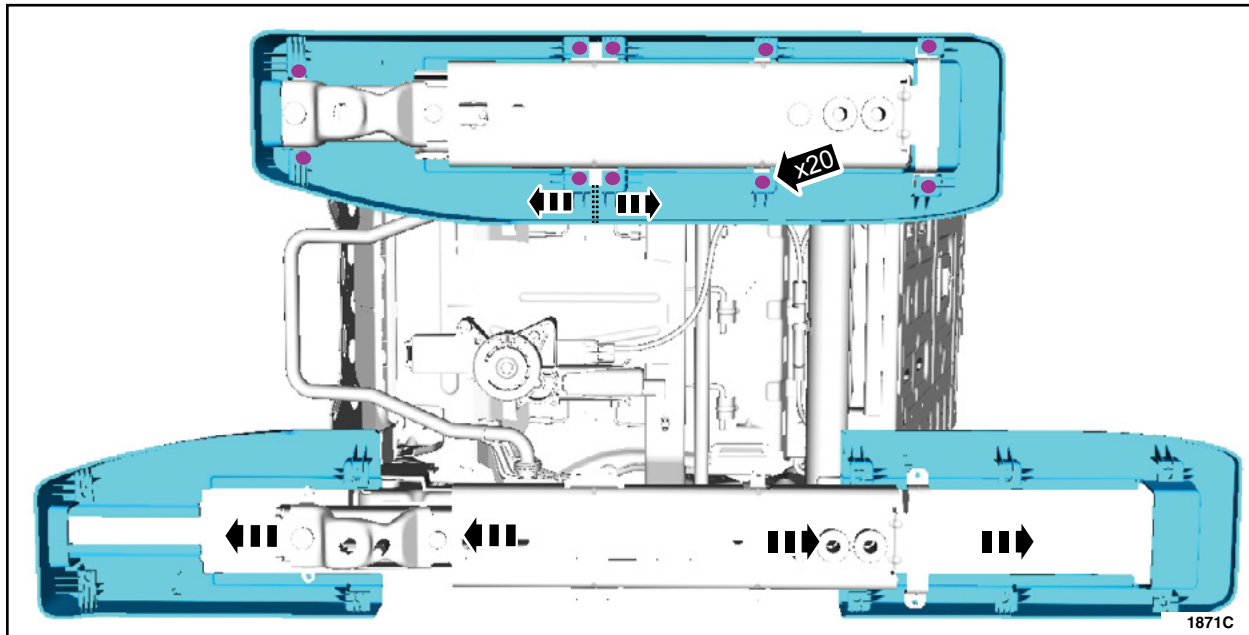

FIGURE 4
4. Remove both of the lower second row center seat track shields. See Figure 4.
28. Install both of the lower seat track shields. See Figure 4.